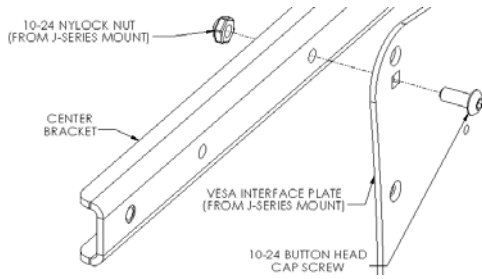
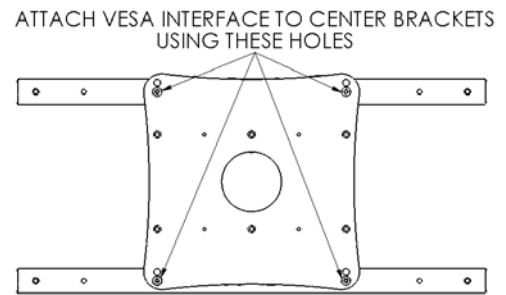

Figure 4
Figure 5
3. **J-Series VESA Interface Installation:** Using the 10-24 button head cap screws along with the 10-24 Nylock nuts (provided with J-series mount), attach VESA interface from J-Series mount to center brackets (See Figure 4 and Figure 5).